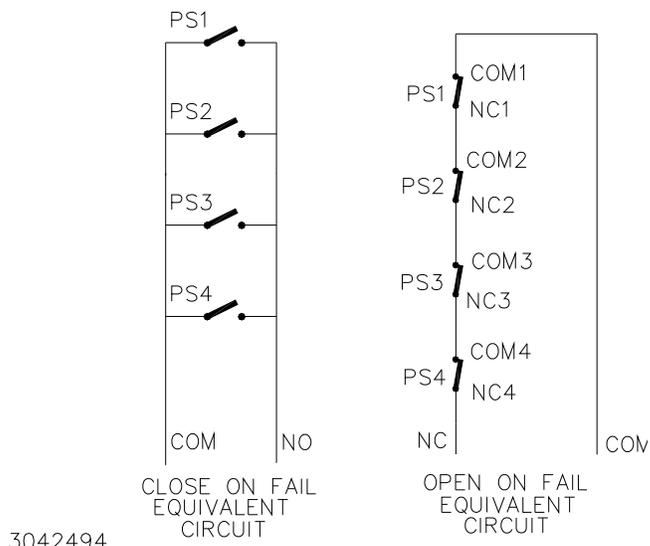

FIGURE 4. TYPICAL ALARM CIRCUIT DIAGRAMS
**ALARM:** The Alarm NC (normally closed) - Open on Failure and Alarm NO (normally open) - Close on Failure lines are relay contacts referenced to Alarm Common. If the unit fails, the path between Alarm NC - Open on Failure and Alarm Common opens, the path between Alarm NO - Close on Fail and Alarm Common is a short circuit. Figure 4 illustrates typical Close on Fail and Open on Fail circuits to give a failure indication if any one of a number of power supplies fail.